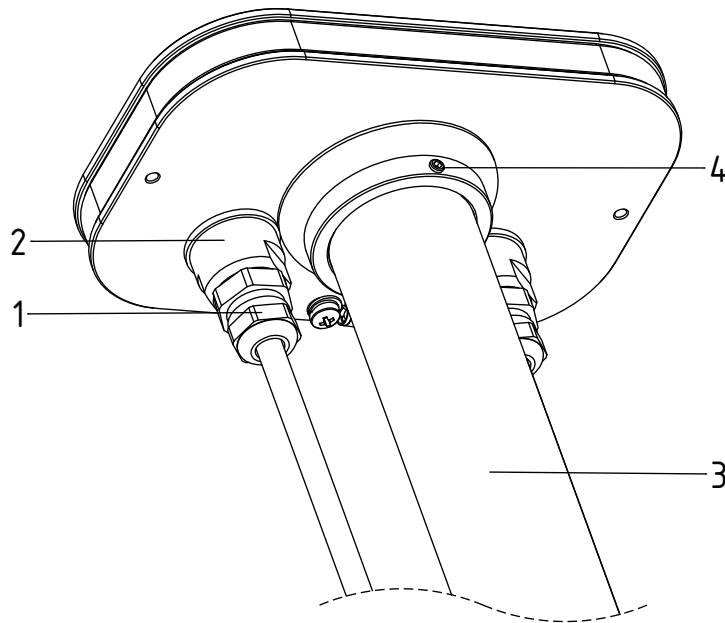

Fig. 6:
- ENERGIZER LR20 ALKALINE POWER(see Chapter 3.4.2 "Changing batteries \(Fig. 6\)", page 15).
- The batteries may only be replaced if it can be ensured that a potentially explosive atmosphere does not exist at this instant of time (see Chapter 3.4.2 "Changing batteries \(Fig. 6\)", page 15).
- Equipotential bonding (PA) shall be established along the entire cable run of the measuring circuit (see Chapter 4 "Operation", page 20).
- To connect the cable, first loosen the cap nut (1) at the gland, then unscrew the adapter with the cable gland (2), see Fig. 6).
3.4.2 Changing batteries (Fig. 6)